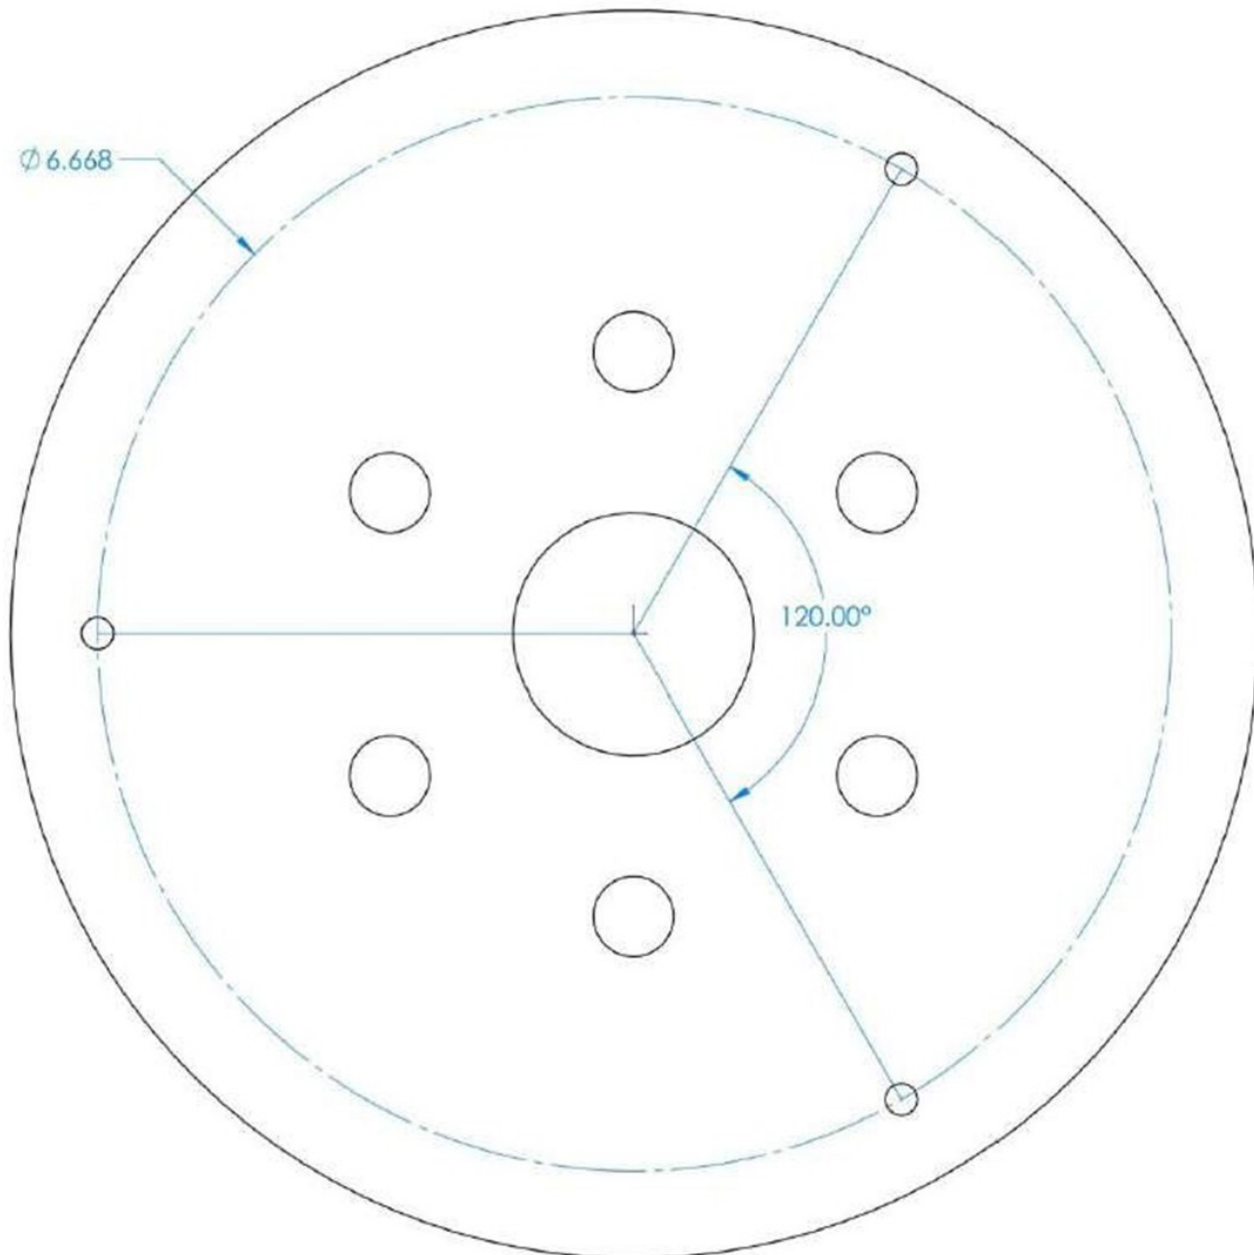

Figure 2. Mounting Template
2. Drill three 1/4" diameter holes in the concrete pad using a masonry bit. A template is provided in Figure 2.